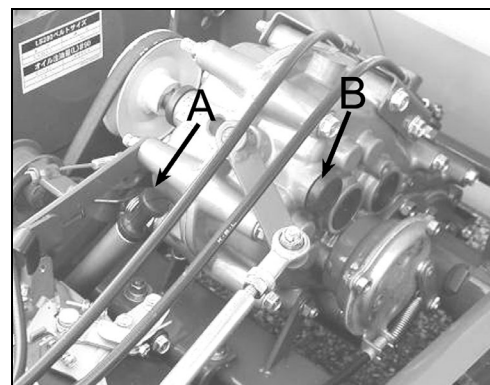

Figure 11(LS280)
Refer to the engine owner's manual delivered with the machine. Check the oil level on the dipstick (A, figure11,12).
2. Remove the oiling cork (B figure11) at the upside of the transmission case.